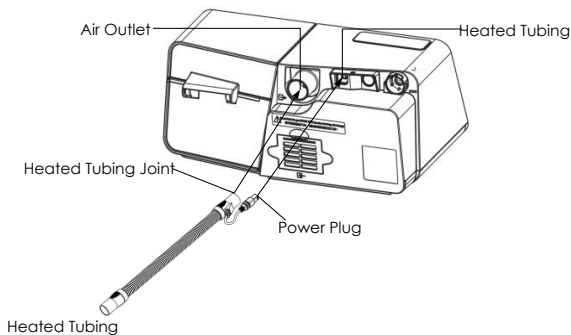

Fig. 12-6
(2) Connect the heated tubing joint to the air outlet of the device, and then insert the power plug into the heated tubing port on the back of the device, as shown in Fig. 12-6.